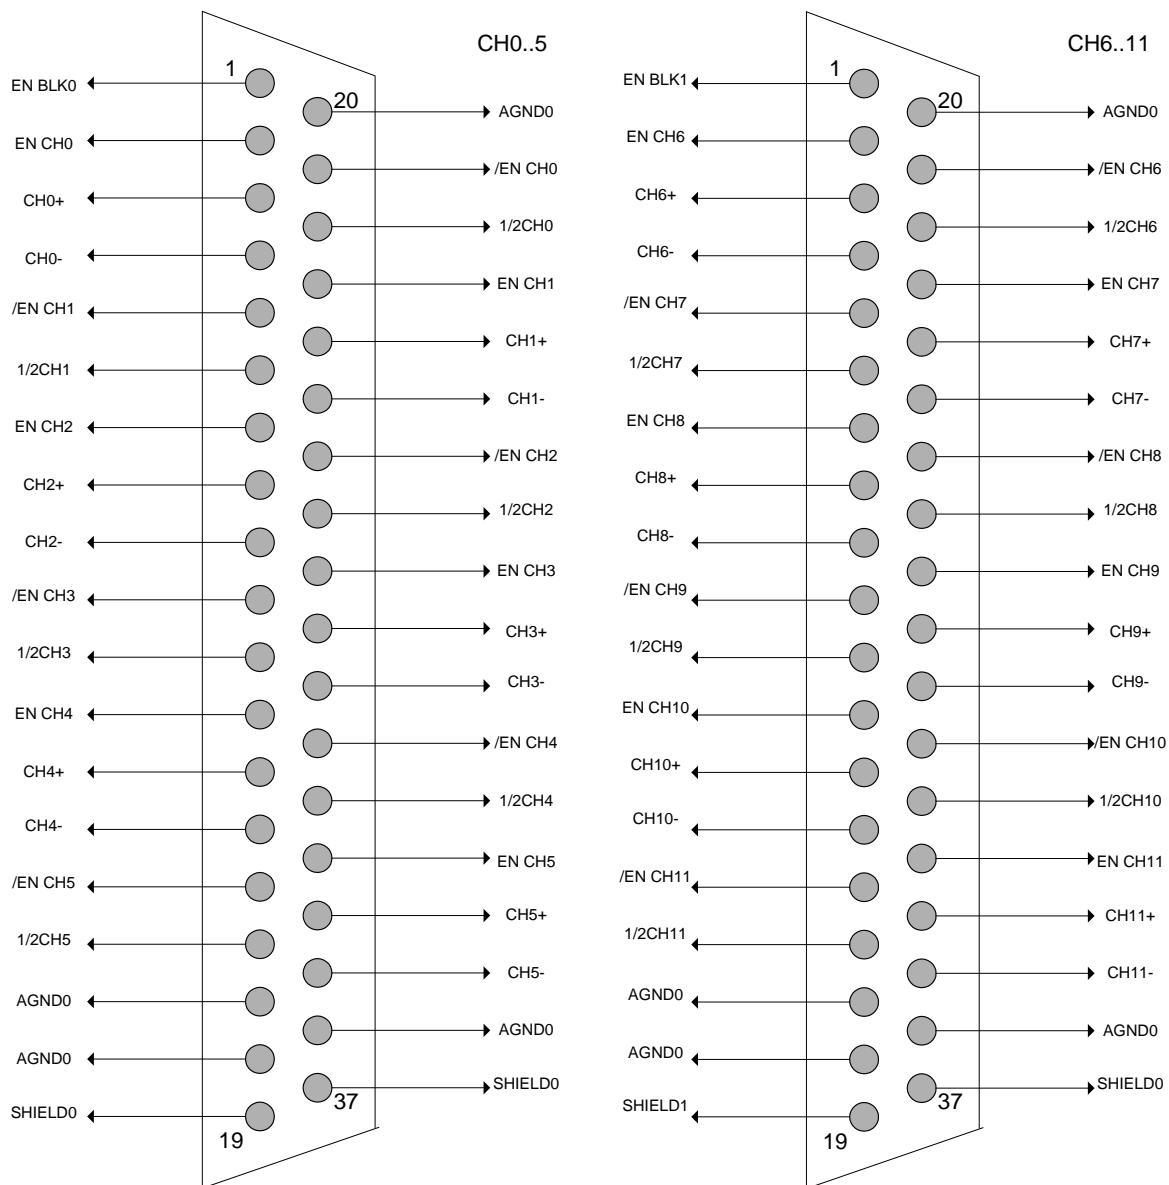

Fig. 3.3 - Mod. A 1510 front panel connectors pin assignment
- ***ENMODE0***: if ENCH_x and /ENCH_x front connector pins (see Fig. 3.3) are not connected, x channel is enabled; if ENCH_x and /ENCH_x pins are short circuited, channel x is disabled